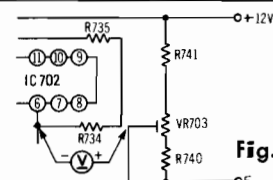

Fig. 15
G Capstan motor circuit adjustment Condition: • Playback mode Equipment: • DC voltmeter • Oscilloscope	A. Standard DC power supply voltage adjustment 1. Measure the DC voltage between central point of VR703 and ⑥ terminal of IC702 as shown in fig. 15. Standard voltage: $0 \pm 0.05 \text{ V}$ 2. If measured voltage is not within standard, adjust VR703. B. Phase lock point adjustment 1. Measure the DC voltage between ④ terminal of IC702 and ground as shown below. Standard voltage: $5.2 \pm 0.1 \text{ V}$ 2. If measured voltage is not within standard, adjust VR702. C. Position detecting signal output level adjustment 1. Connect oscilloscope to test point (T.P. P.V.). 2. Measure the peak-to-peak voltage of position detection signal of test point with the oscilloscope. 3. If the measured signal voltage is markedly different from the voltage shown below, make the necessary adjustment with VR701.